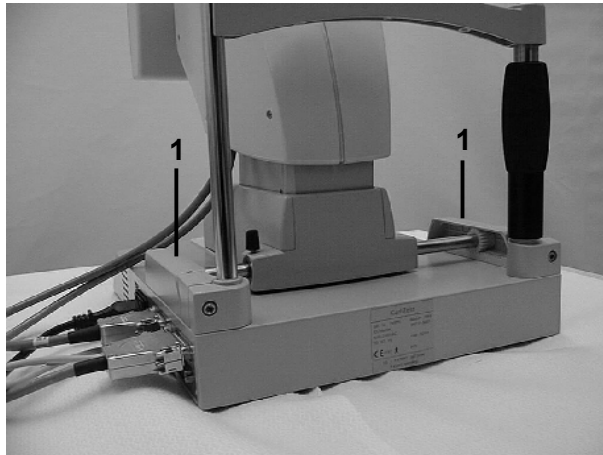

Fig. 8
- Unscrew both toothed racks ((1) Fig. 8) and remove the base.